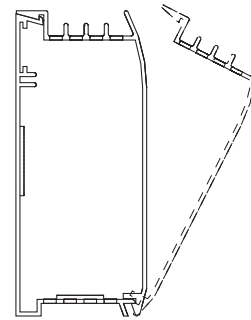

Fig. 5
16. Before energizing, make sure front cover is properly locked onto the back housing along the entire length of the heater, see Fig. 5. Do not operate heater without front cover installed.
- Replace front cover by latching the bottom front edge of the front cover over the bottom front edge of the back and pushing the cover straight back to latch the top rear edge of the back with the top rear edge of the front cover. See Fig. 5.
- Replace front covers following Step 10 under **Single Unit Installation**, (See Fig. 5.)
5. Replace front cover as shown in Fig. 5 making sure it is locked in position along length of heater. Restore power to heater and verify it is operating properly.